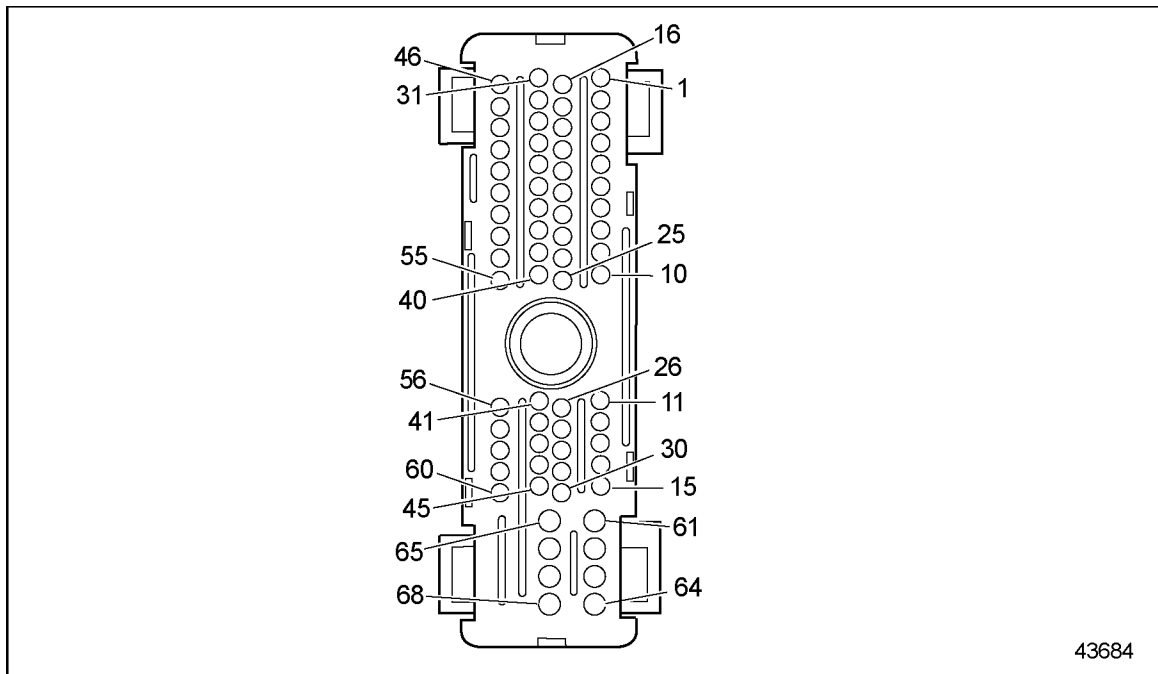

Figure 44-2 ECM/ECU Engine Harness Connector
3. Measure resistance between sockets E-19 and E-20 on the Engine Harness connector. See Figure 44-2.
See Figure 44-2.